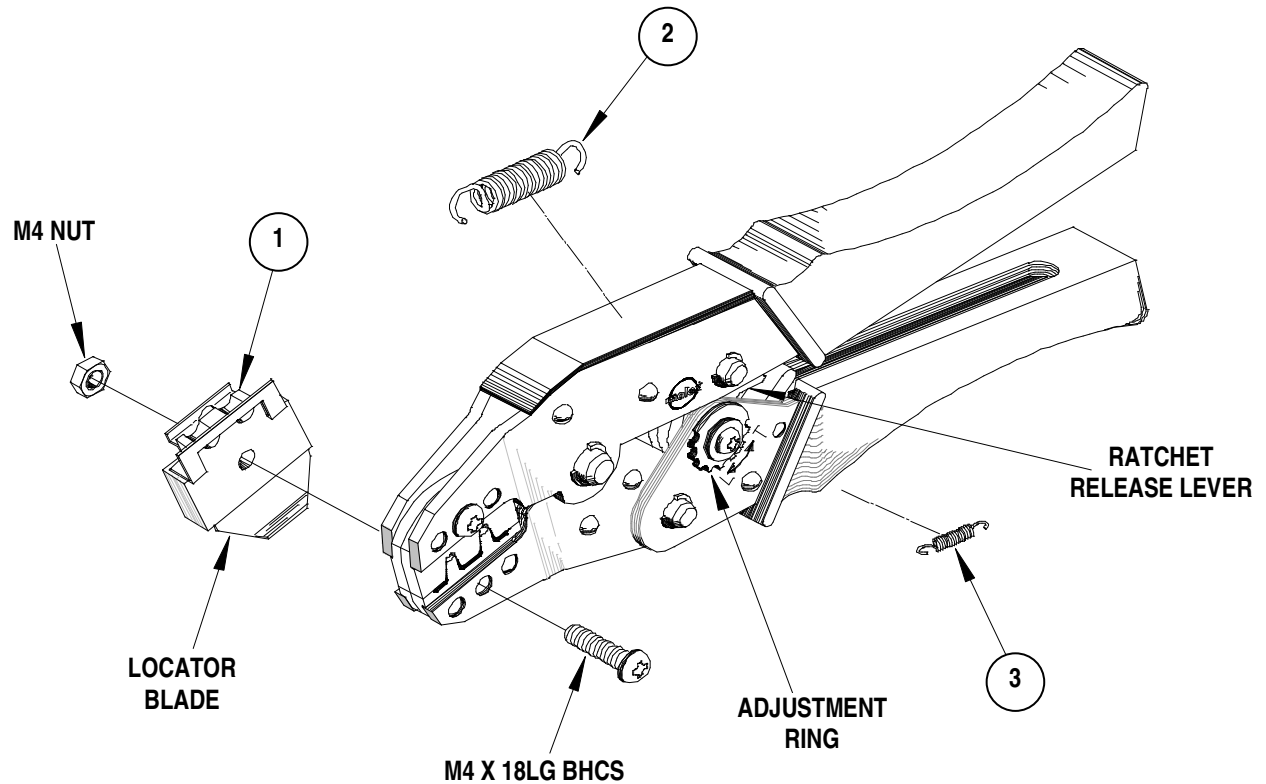

Figure 4
4. Close the tool until the ratchet releases. See Figure 4.
Should this tool ever become stuck or jammed in a partially closed position, **Do Not force the handles open or closed**. The tool will open easily by lifting the ratchet release lever. See Figure 4.
## How to Adjust Tool Crimp Force (See Figure 4)